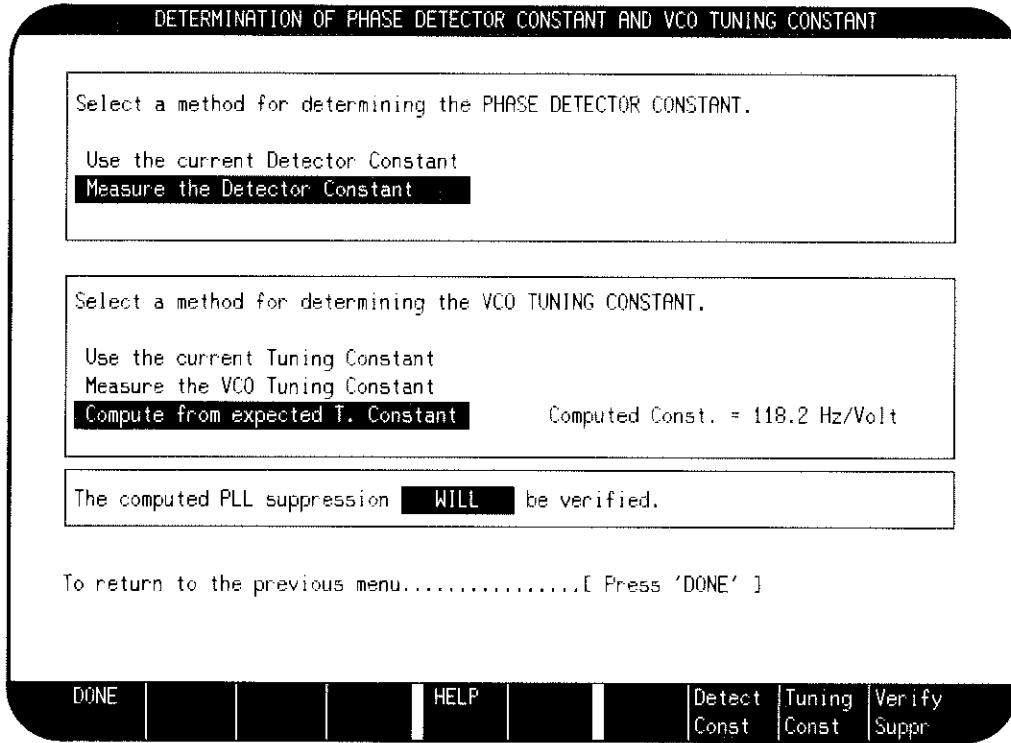

Figure 3-12. Determination of Phase Detector and VCO Tuning Constant Menu
- On the HP 3048A press the **Calibr Process** softkey to obtain the Determination of Phase Detector Constant and VCO Tuning Constant menu. Set the method of determining the phase detector and VCO tuning constants and the verification of the phase lock loop suppression as shown in figure 3-12. (The displayed Computed Constant may be quite different from the one in figure 3-12. It will be updated later.) When done, press the **DONE** softkey.